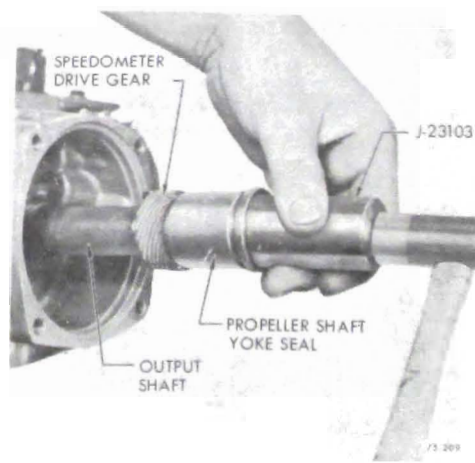

Figure 75-272
3. Install propeller shaft yoke seal using tool J-23103. See Figure 75-272.